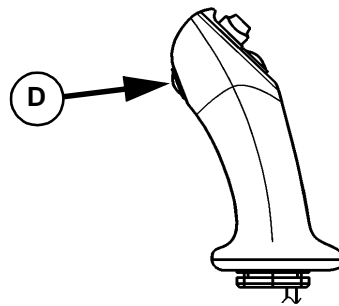

Figure 3-61 Hammer Operation
To operate an auxiliary hydraulic hammer attachment, press and hold trigger button (D, Figure 3-61) on the right joystick. The hammer will operate continuously until button (D) is released.